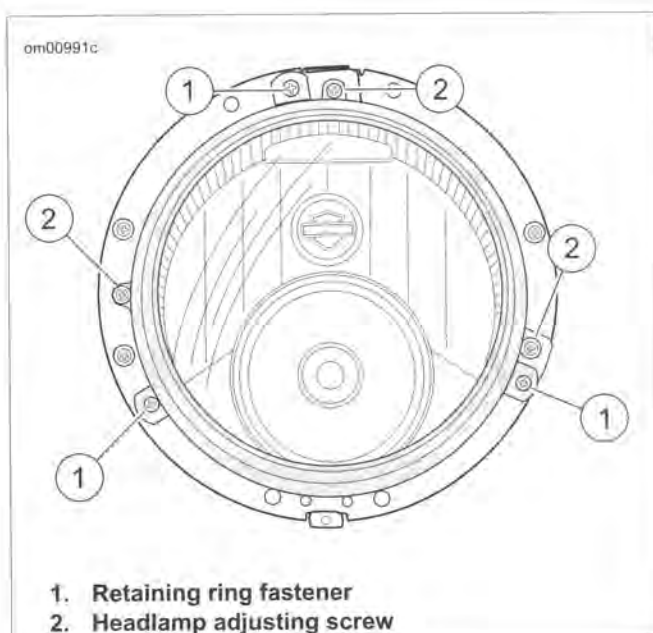

Figure 7-13. Headlamp Retaining Ring
3. See Figure 7-13. Remove screws (1) securing retaining ring.